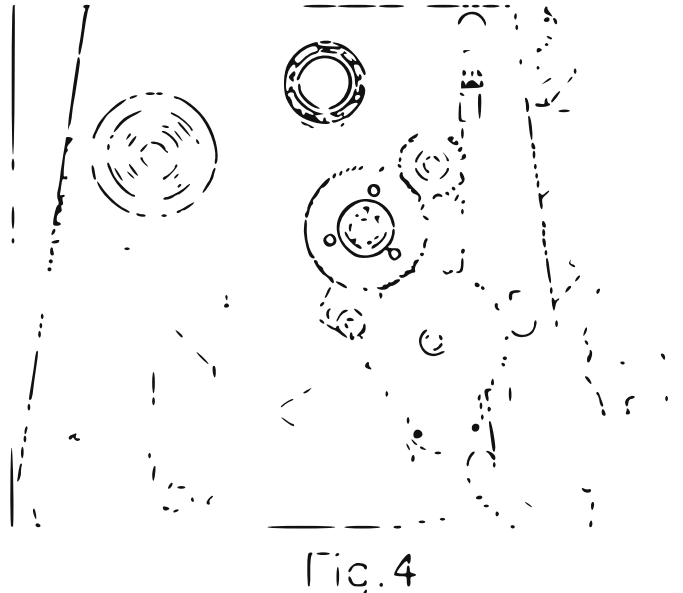

Figure 3-3: End gear train, coated for shipping
- 1 Before you operate any controls, remove the anti-corrosion coating from all slideways and from the end gear train (Figure 3-3).